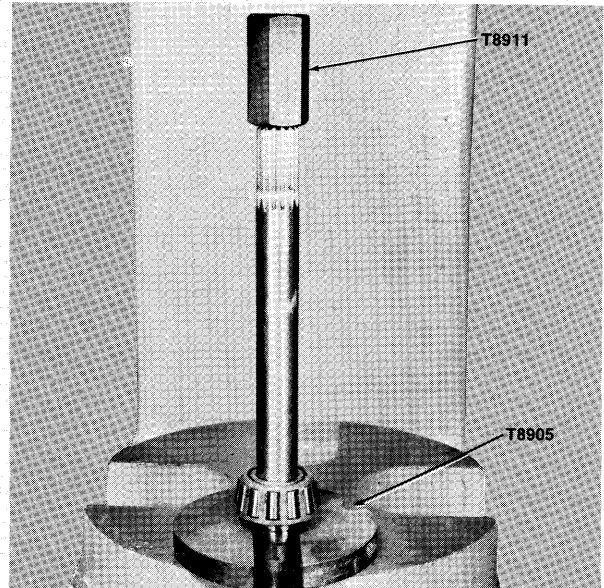

Figure 11—Pressing Bearing Off Driveshaft
- C. Press bearing off driveshaft using bearing remover (Special Tool T8905) and knock-off nut (Special Tool T8911) as shown in figure 11.